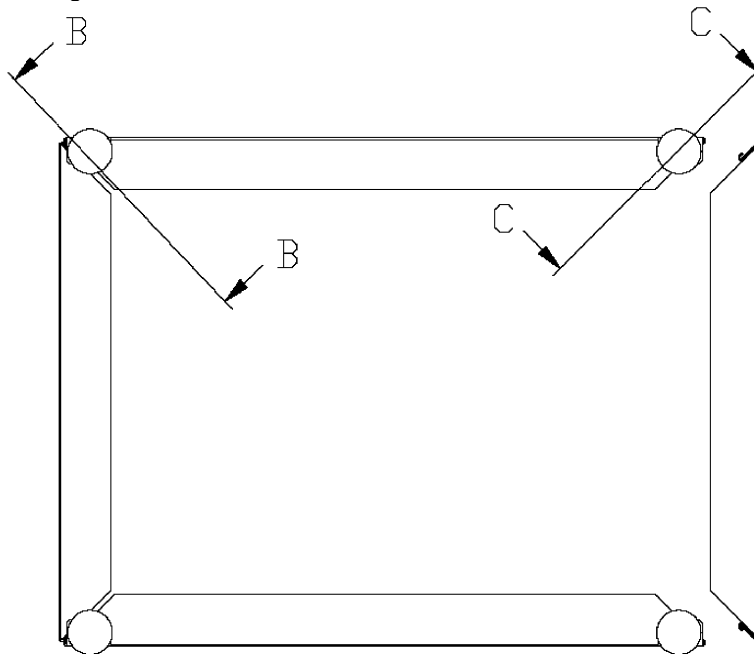
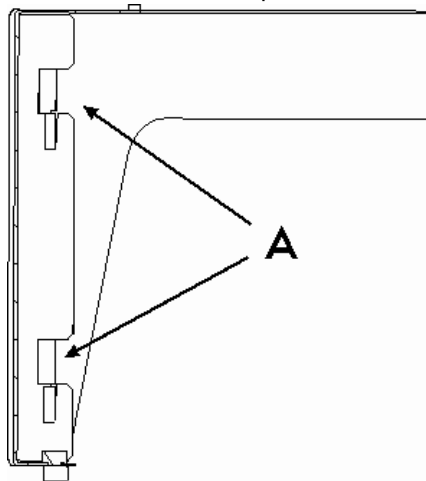
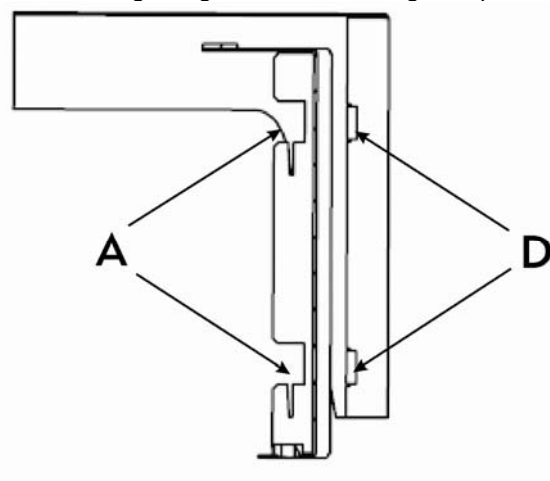

Figure 20: Side part of the mounting frame
Figure 21: Detail of sectional drawing B-B
Figure 22: Detail of sectional drawing C-C
- Connect the side parts of the mounting frame according Figure 20 and to the sectional view in Figure 21 and Figure 22.